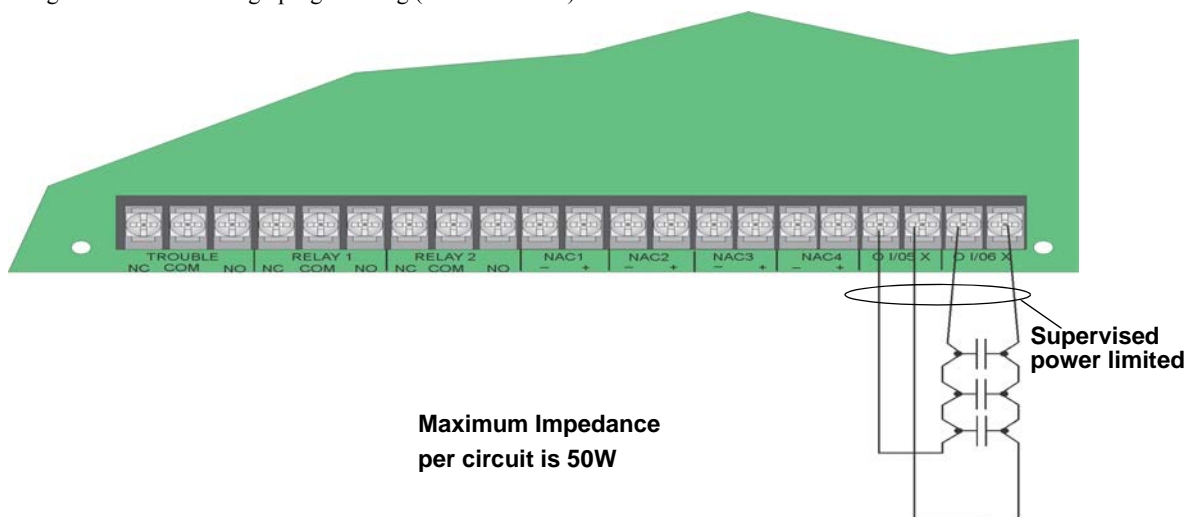

Figure 4.46 Class A initiating Switches
1. Wire the Class A switch as shown in Figure 4.46.
NOTE: In programming any point that uses multiple Flexput circuits, the lowest Flexput circuit number is used to refer to the circuit pair. In this example, Figure 4.46 uses both Flexput circuit 5 and 6, so in programming it would be referred to as point 5.